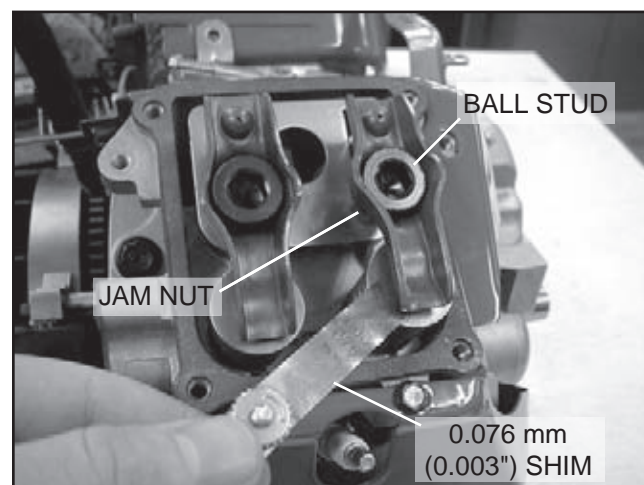

Figure 40.
1. Remove the four (4) screws from the rocker cover.
3. Loosen the rocker arm jam nut. Use a 10mm allen wrench to turn the pivot ball stud and check the clearance between the rocker arm and the valve stem with a flat feeler gauge (see Figure 40).